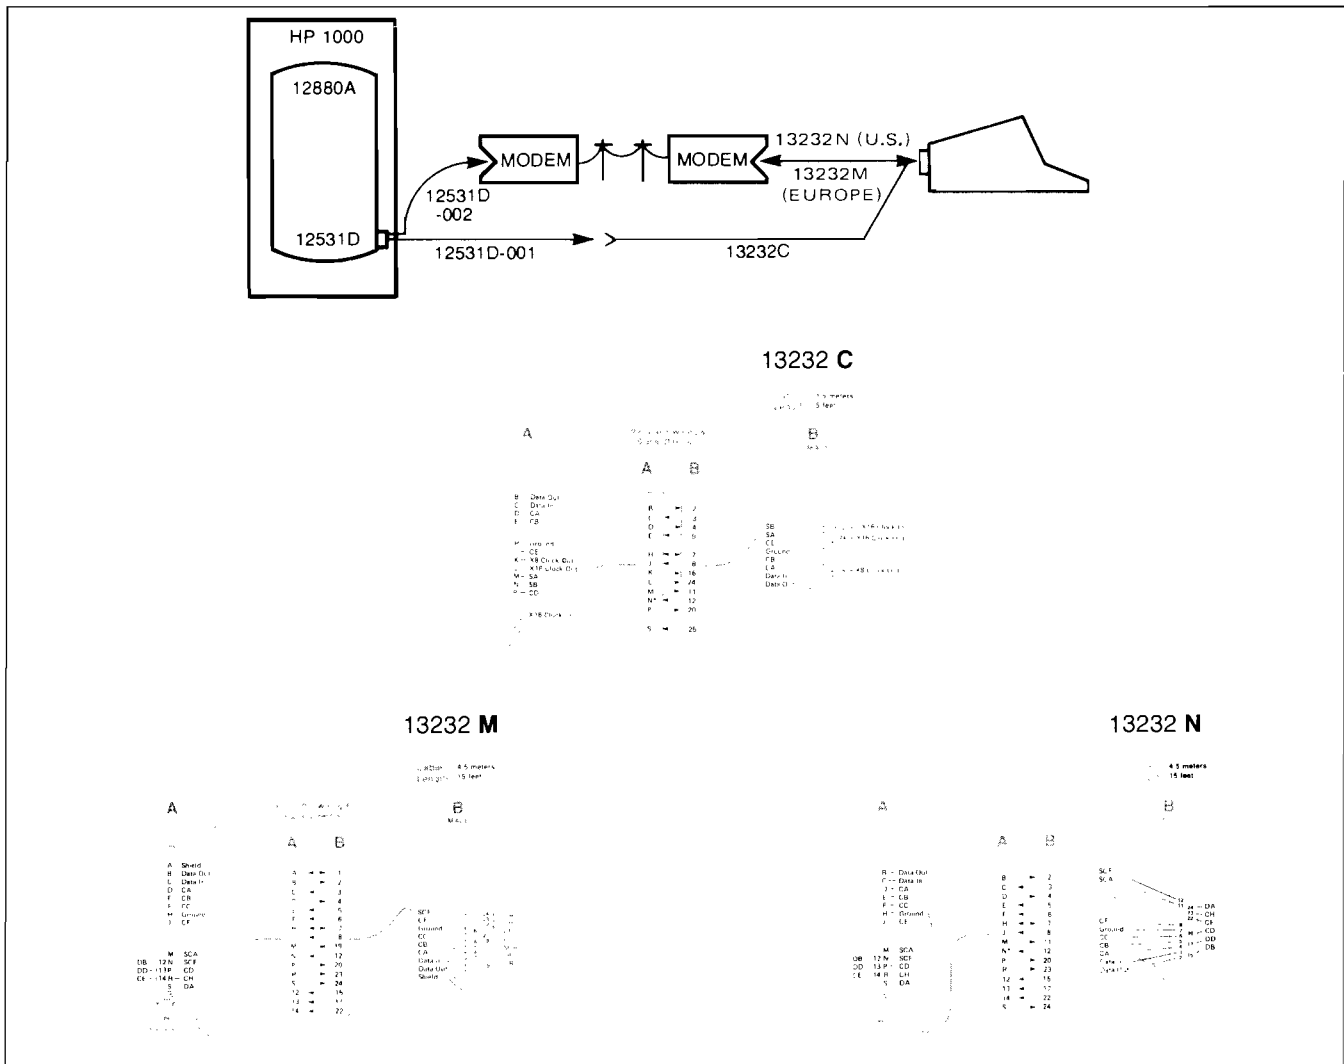

Figure 1-8. Connecting the Terminal to the HP 1000 Computer System with the HP 12531D Interface
To connect the HP 2647A terminal to the HP 1000 Computer System using an HP 12531D interface, refer to figure 1-8 and proceed as follows:
6. Connect the following cables (see figure 1-8):